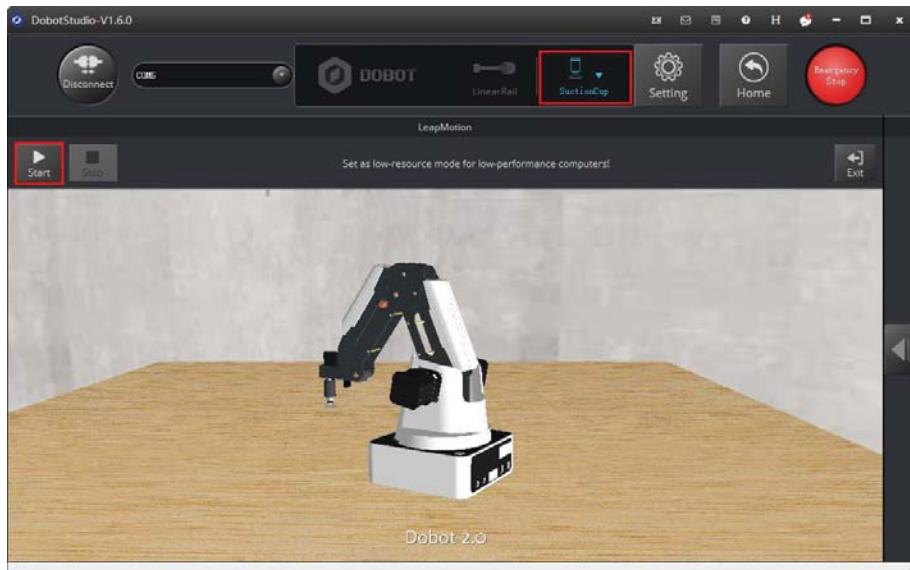

Figure 5.110 Click Start
**Step 5** Choose **SuctionCup** as the end-effector on the **DobotStudio** page, and click **Start** to control the **Dobot Magician** with your hand gesture, as shown in Figure 5.110. To maintain the Dobot Magician in a stable state, move your hand into the workspace of the Leap Motion controller while keeping your palm upward. And turn your palm down, and then move your hand above this area to control the Dobot Magician.